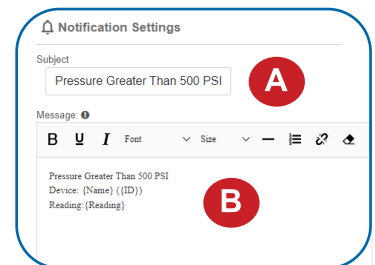

Figure 25
A. Input the subject for the notification. See Figure 25.
B. Customize the message body for the notification. See Figure 25.